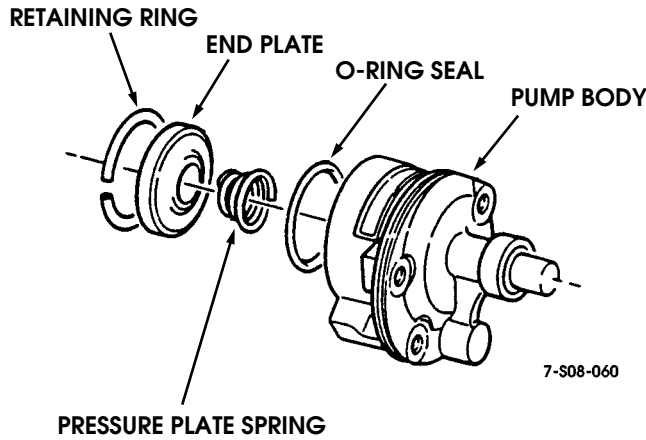

Figure 8-79: End Plate Installation
- 12. Install O-ring seal in center groove in pump body (Figure 8-79).